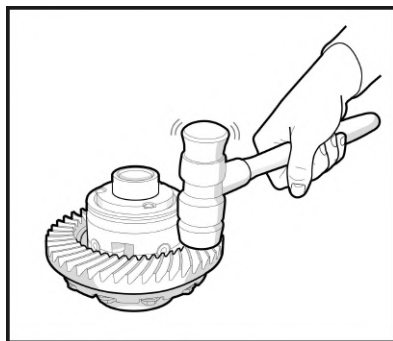

Fig. 17
2.8 Install the ring gear on the Electric Locker case, aligning its threaded holes with the holes in the case. If necessary, use a rubber-, plastic-, or copper-faced hammer to seat the ring gear by applying even blows around its circumference. (Fig. 17)